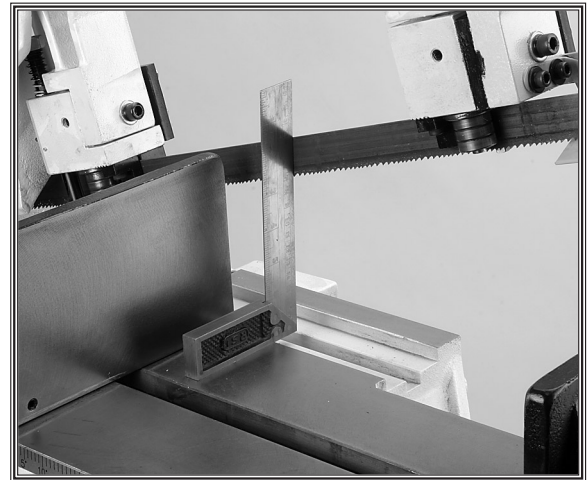

Figure 39. Square blade to table.
2. Examine your workpiece for clues as to which way the blade is twisted, or set up a machinist square on the table and blade as shown in **Figure 39**.